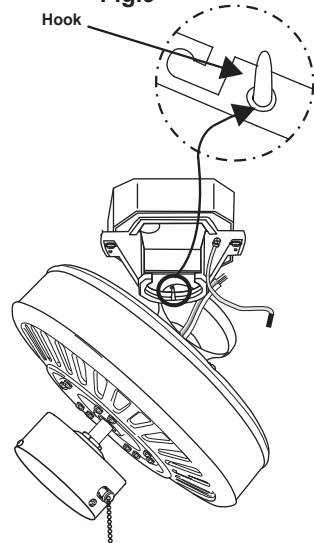

Fig.10
6. Hang the fan on the hook of the hanger bracket. Be certain that the canopy is fully locked into hook as shown in (Fig. 10). This will allow you to make the electrical connections.